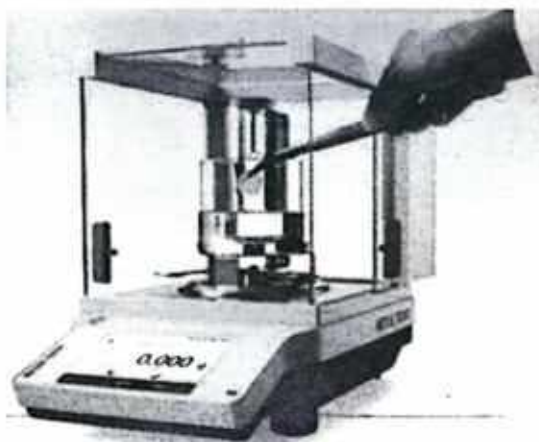

Fig. 7.33: Water immersion method to find density
- d. In jewellery making density play a vital role. As every metal and gemstone has unique density in its pure form. Jewellers use the values of density to find the purity and quality of the gold and other items. The common method for finding the density of jewellery items is the water immersion method as shown in figure 7.33.